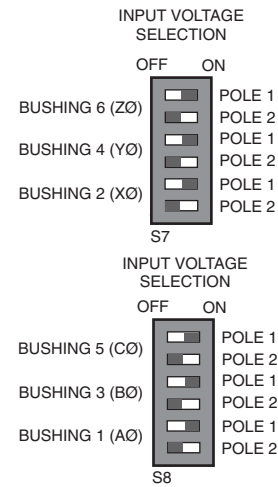

Figure 23. Recloser Interface (RIF) Module configuration.
7. Configure the RIF board as shown in Figure 23.